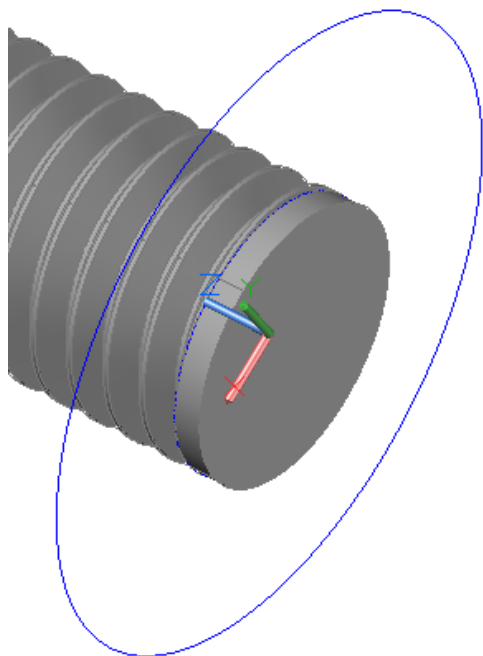

Figure Step 17
Step 17 Draw a circle at the end of the threaded shaft and extrude it 0.0625 inches. (Figure Step 17)